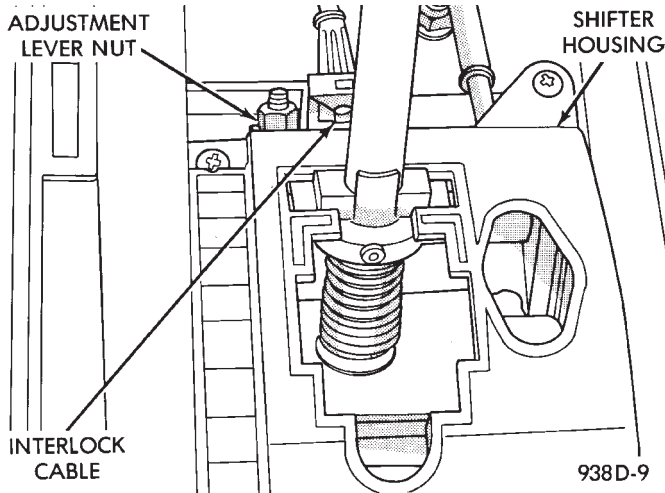

Fig. 37 Interlock Cable at Floor Shifter
(9) When the adjustment nut on the interlock lever is loosened, the cable indexes itself to the correct position (Fig. 37).
(10) Loosen the adjustment nut. Allow the cable to adjust itself to the correct position. Tighten the adjustment nut.